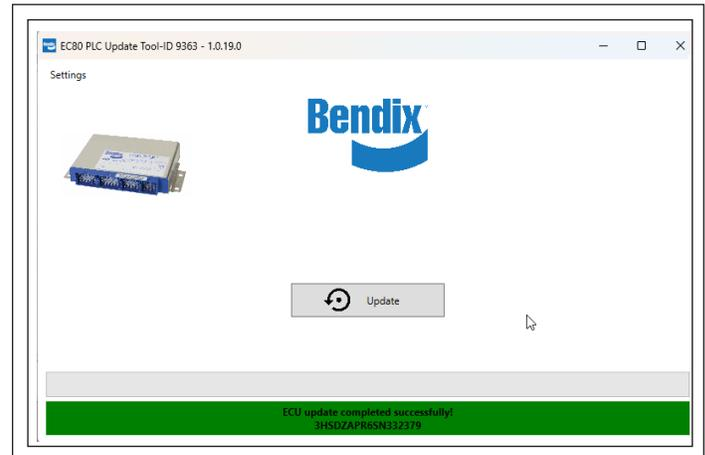

Figure 2 – Update Successful
- If the update is successful, the screen will show that the software has been updated, and the procedure is complete. See *Figure 2*. Follow International guidelines to document the software update.